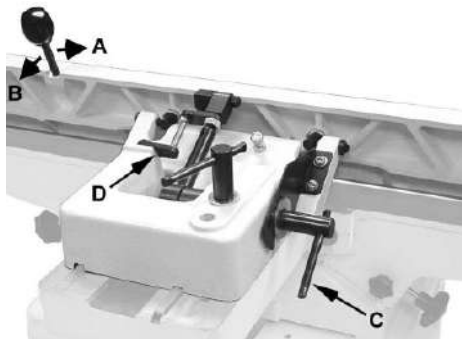

Fig 19
1. Loosen locking handle (C, Figure 19).
2. Move the lever forward (A, Figure 19) to the desired angle down to 45 degrees. Or you can place your reference piece on the table and against the fence, and adjust the fence until the angle of the fence matches the bevel of your gauge piece.
3. Tighten locking handle (C, Figure 19).
2. Loosen locking handle (C, Fig. 19).
3. Flip the 90° stop block (D, Fig. 19) out of the way.
4. Move the lever (B, Fig. 19) back to the desired angle up to 135 degrees. Or you can place your beveled reference piece on the table and against the fence, adjusting the fence until the angle of the fence matches the bevel of your gauge piece.
5. Tighten locking handle (C, Fig 19). **Important:** When the tilted operation is finished and the fence is returned to 90°, do not forget to flip the 90° stop block (D, Fig. 19) back to its original position.